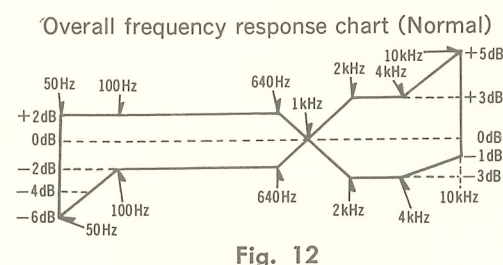

Fig. 12
|                                                                                                                                                                                                                                                                                                                                                        | <ol style="list-style-type: none"> <li>Adjust ATT so that input level is -20 dB below standard recording level (standard recording level=0 VU).</li> <li>At this time, LINE OUT level indicates 0.039 V.</li> <li>Record each frequency 1 kHz, 50 Hz, 200 Hz, 640 Hz (600 Hz for metal), 2 kHz, 8 kHz, 10 kHz (12 kHz for CrO2 and metal).</li> <li>Playback and express in dB the difference between playback output level of each frequency based on playback output level of 1 kHz.</li> <li>Make sure that the measured value is within the range specified in the overall frequency response chart (shown in fig. 12).</li> <li>Change test tape to CrO2 (QZZCRX) and metal (QZZCRZ).</li> <li>Set the tape selector to each position.</li> <li>Measure in the same manner from step (3) to step (8).</li> <li>Make sure that the measured value is within the range specified in the overall frequency response chart for CrO2 and metal tape shown in fig. 13 and 14.</li> </ol> |